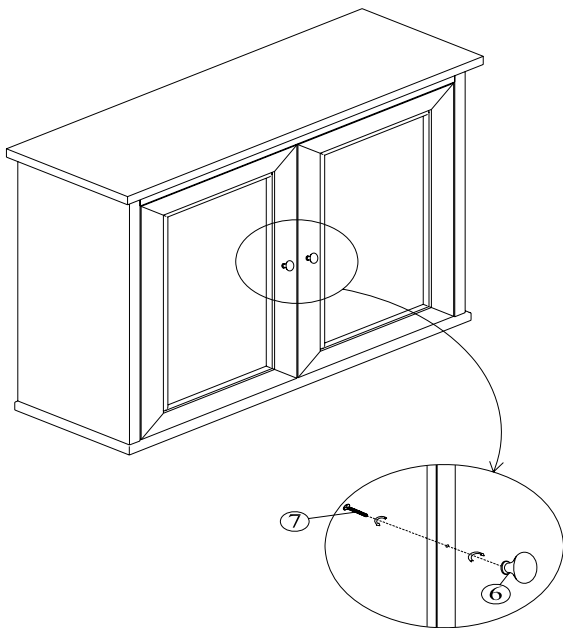

Figure 3
Note: To replace pre-attached knobs; with a Phillips screwdriver, release the bolt (7) on the inside of the door by turning counterclockwise. This detaches the knobs. To re-attach knobs: use a screw driver (turning counterclockwise) to screw the bolt on the inside of door. Figure 3